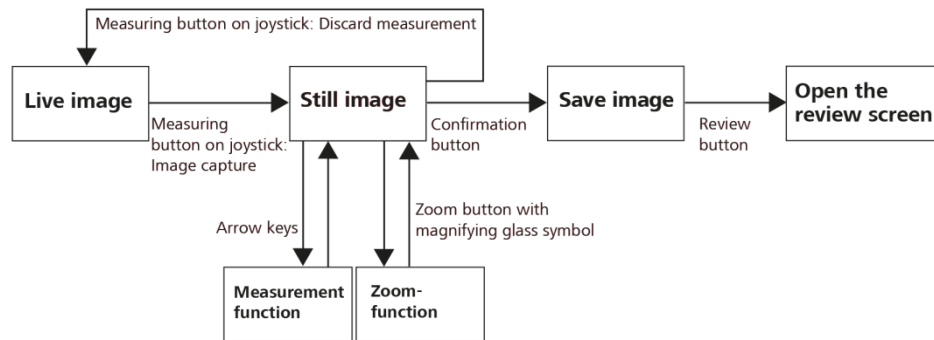

Fig. 36 Main control functions in Pupil mode
The following chart shows the **Main control functions** for measuring the pupil or corneal diameter (Fig. 36).
- If you want to discard the image, press the measuring button on the joystick once. The device will display a query message if you want to discard the image and the related measurement. This message can be suppressed by changing the device settings in the **Interface/User/User interaction** menu (see page 95). As soon as you have confirmed by pressing the **Discard** button, the device returns to the live image mode (see also Fig. 36 and Fig. 38). Now you can measure the diameter again.
- When both measurement lines are correctly positioned, confirm the measurement by tapping the corresponding button (5, Fig. 39). The determined measurement value, the illumination parameters set for the image and the image itself (with measurement lines) are saved (see Fig. 36).